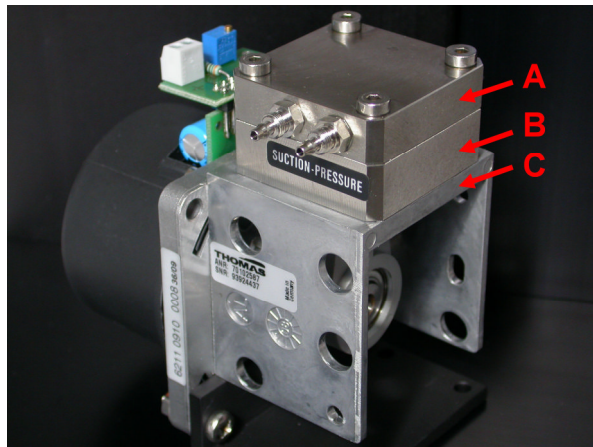

Fig. 1: SGP5-DC
- loosen the four screws holding parts "A", "B" and "C" (Fig. 1) together